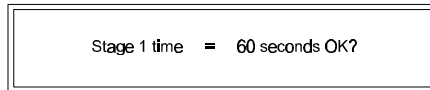

Figure 62: Stage Timer Menu One
- After setting the start and end times for the Delayed Mode, the display will then prompt, “Stage 1 time = 60 seconds OK?” If the Stage 1 timer is as shown in Figure 62, the panel will go into a full fire condition within 60 seconds of the sensor exceeding the preset threshold level. The panel buzzer sounds during this period, and the sensor location is shown on the alphanumeric display with a warning that the panel has entered Stage 1 of a delayed alarm.